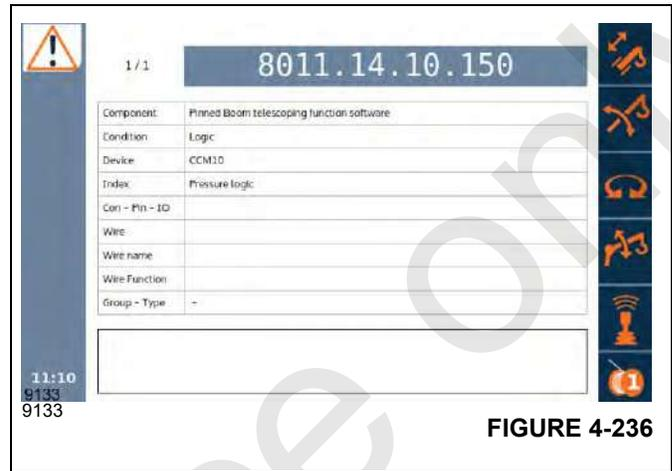

FIGURE 4-236
The Additional Information screen (Figure 4-236) gives the operator details about the location of the system that is at fault, along with an explanation.
3. The ODM Error Code Viewer (Figure 4-236) opens.